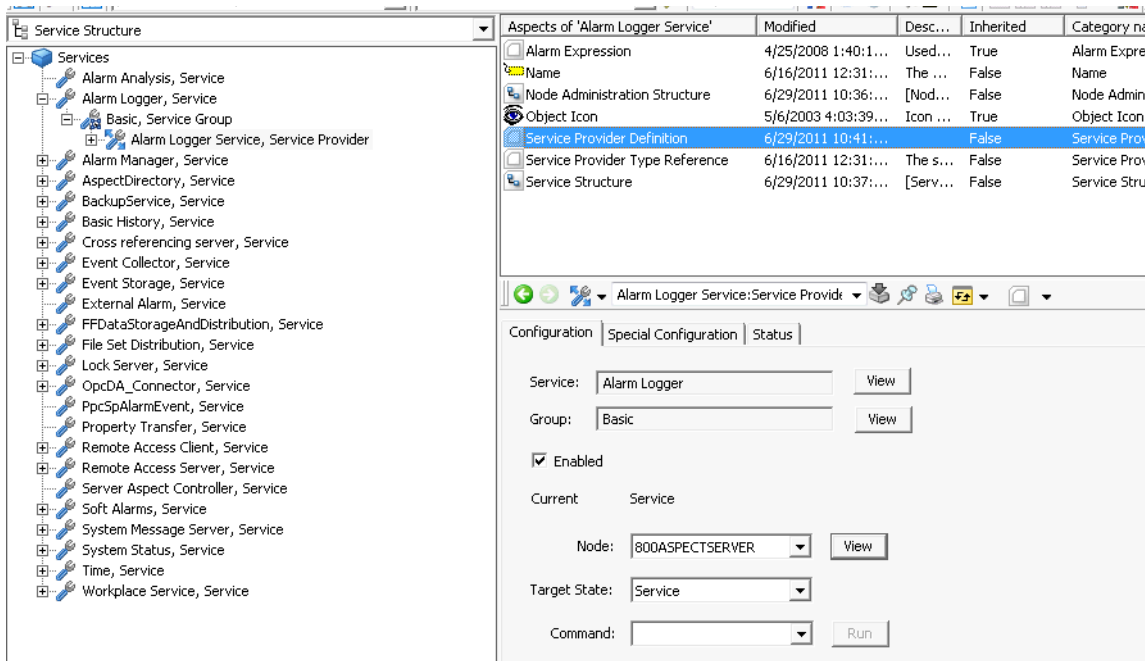

Figure 63. Service Provider Definition Aspect - Configuration Tab
5. Select the Service Provider object, see Figure 63, and open the Service Provider Definition aspect.